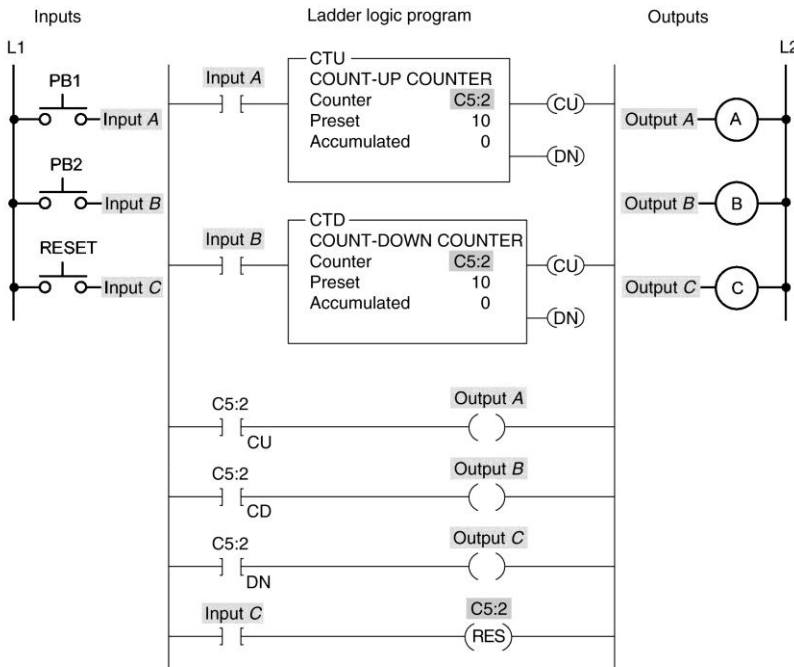

Figure 8-13 Up/down-
7) The operation of the up/down-counter program shown in Figure 8-13 is described in the text. Prepare an I/O connection diagram and ladder logic program for the process. Use addresses that apply to your PLC. Enter the program into the PLC, and prove its operation.